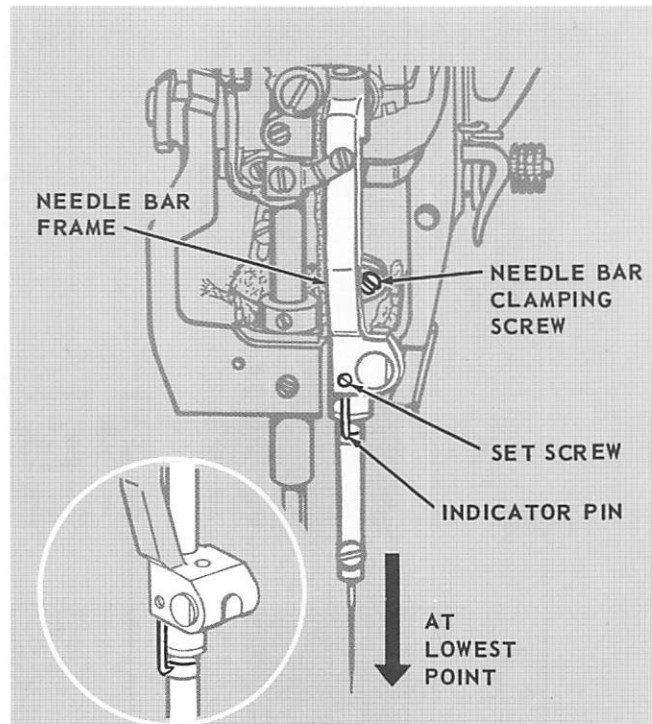
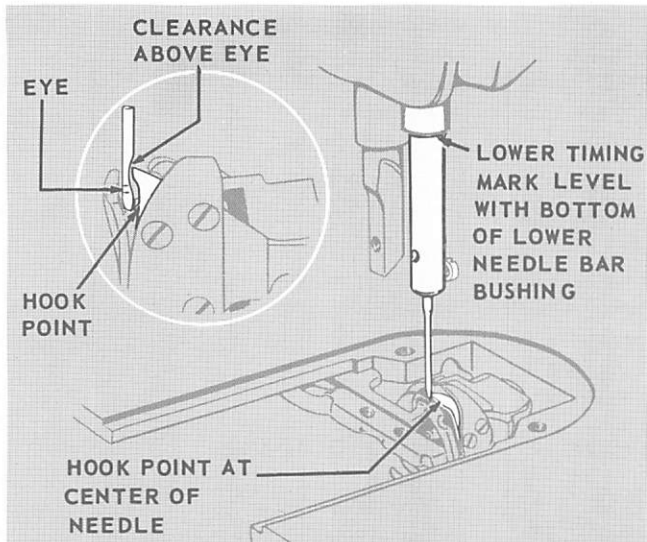

Fig. 42. Setting Needle at Correct Height on Machines 281-22 and 281-24
Fig. 44. Hook Point at Center of Needle
When needle bar is at its lowest point (during rotation of machine pulley) the point of timing indicator pin should be level with UPPER TIMING MARK on needle bar, as shown in Fig. 42.
To adjust indicator pin, loosen set screw, shown in Fig. 42, in needle bar frame and raise or lower pin, as required. Securely tighten set screw.
**MACHINES 281-22 AND 281-24:** Turn machine pulley slowly until needle bar is at its lowest point. Loosen needle bar clamping screw shown in Fig. 42, and raise or lower needle bar, as required, to bring UPPER TIMING MARK level with pointer on timing-indicator pin, as shown in Fig. 42. Securely tighten clamping screw.
Turn machine pulley over toward operator until needle bar reaches its lowest point and rises to position where **LOWER TIMING MARK** on needle bar is level with bottom of lower needle bar bushing, as shown in Fig. 44. (On Machines 281-22 and 281-24, **LOWER TIMING MARK** should be level with timing-indicator pin shown in Fig. 42, page 17).
At this position, point of sewing hook should be at center of needle, as shown in inset, Fig. 44.